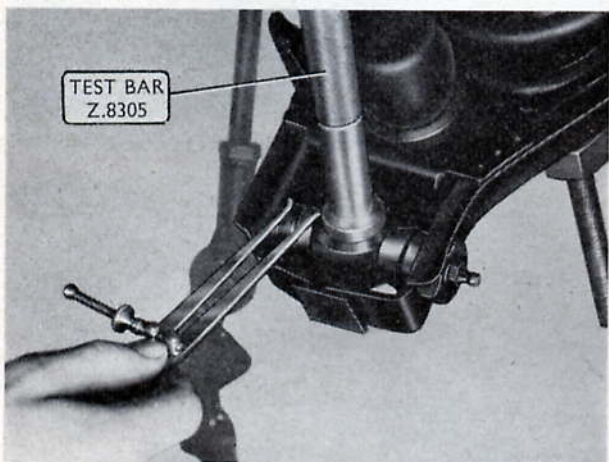

Fig. K.20. Checking that the trunnion is central in the arm using the test bar and calipers
1. Check that the trunnion is central in the arm (Fig. K.20) and the chamfered side of the king pin bush housing is facing upwards.